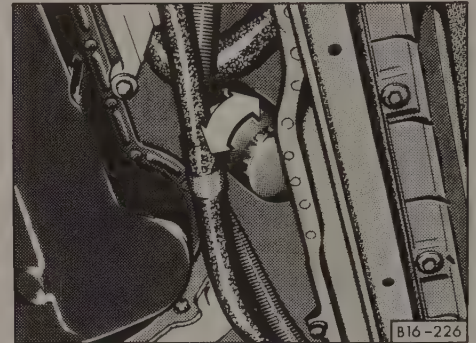

Fig. 4-4. Engine oil filter located in front of engine, behind radiator. (Shown viewed from below).
5. Move the drain pan slightly forward so that it is directly under the oil filter, shown in Fig. 4-4. Using an oil filter wrench, loosen the filter by turning it counterclockwise (as viewed from below), then remove it by hand.